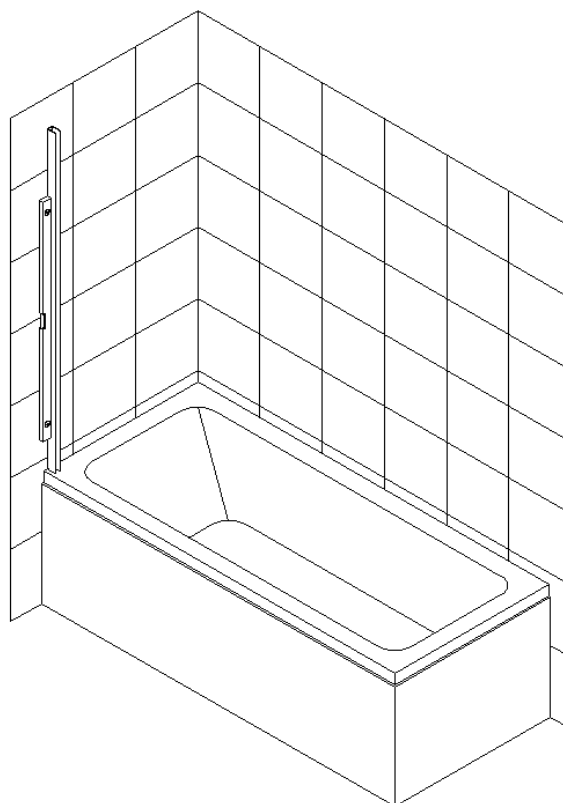

Fig 2
2. Using a level, position the **Wall profile (01)** on the tub deck and against the wall, in line with your threshold/tub deck. This unit requires 1" of flat threshold space for installation. See Fig 2.